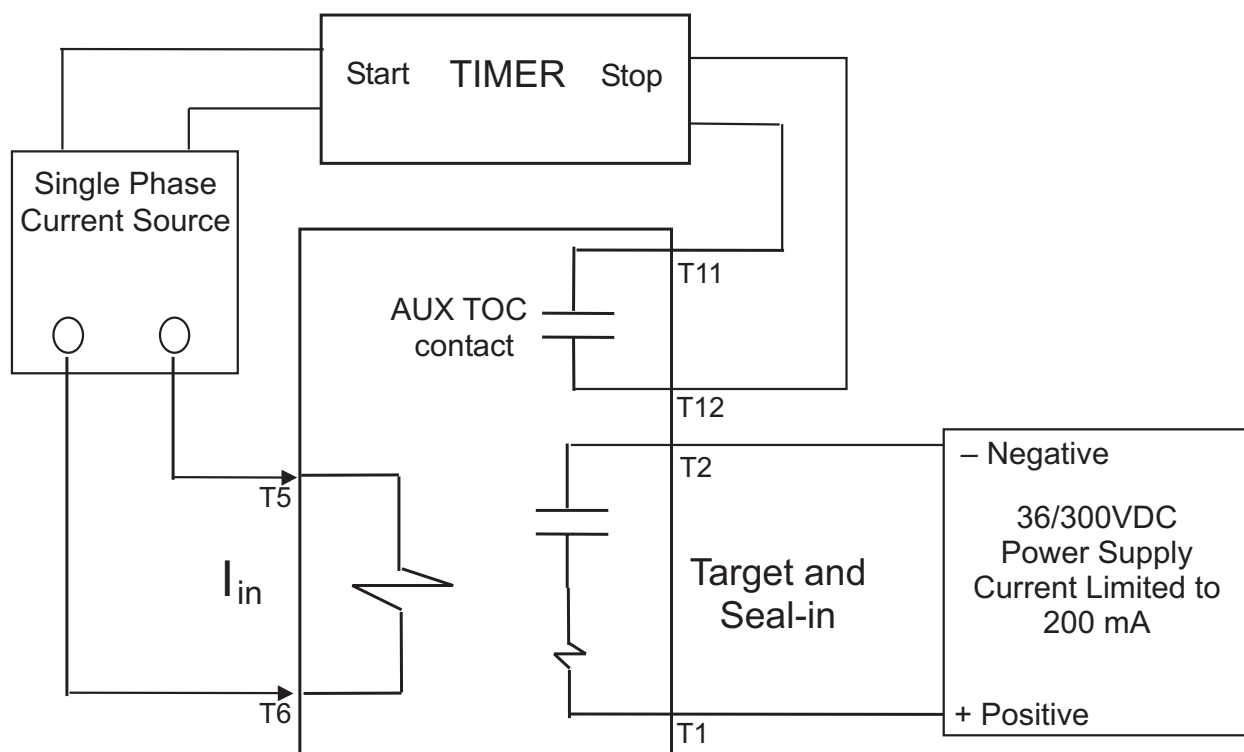

Figure 24: DIFC Test Setup for Pickup and Operating Time Verification
- Connect the relay as indicated in Figure 24 or 25. In order to apply current to the relay, use a 50/60 Hz voltage source, with a variable resistor in series, or an electronic current source.
- Set the relay at the desired pickup TOC and disable the instantaneous unit by setting the instantaneous current setting to zero (0).
Because the Digital self powered series of relays has many different curve characteristics, the basic test instruction will be given and the data for each of the curves can be found in Table 1. With the relay still connected as indicated in Figure 24 or 25, set the time overcurrent unit to minimum pickup and set the corresponding time dial to 5. Successively apply currents of 2, 5, and 10 times pickup TOC, verifying that the operating times are within the margins indicated in Table 1.